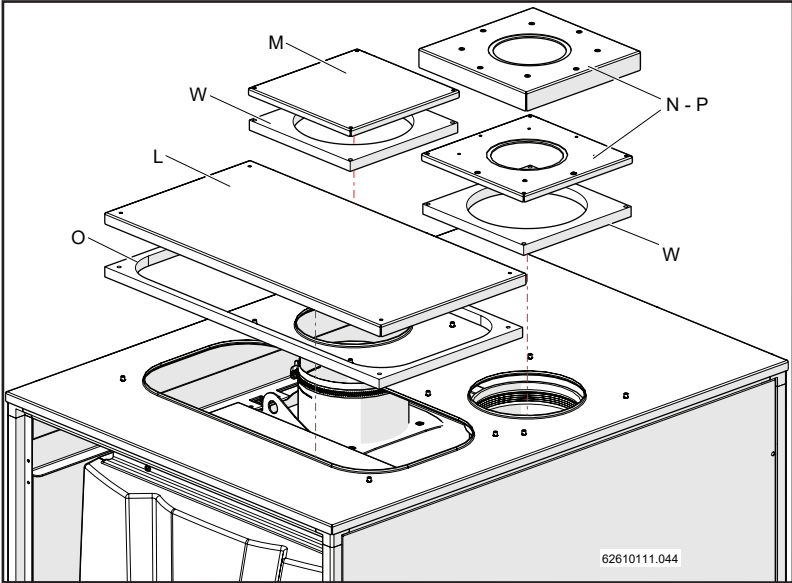

Figure 12-26
- 13.- Use screws "D" to fasten the guard for electrical connections "L", for intake "M" and for exhaust "N" (or "P") to the upper covering (figures 12-26 and 12-27); remember to insert gaskets "O" and "W" as shown in figure 12-26.
- If you have a 110 mm diameter flue exhaust, use the covering for exhaust "N" in figure 12-26.
- If you have an 80 mm diameter flue exhaust, use the covering for exhaust "P" in figure 12-26.